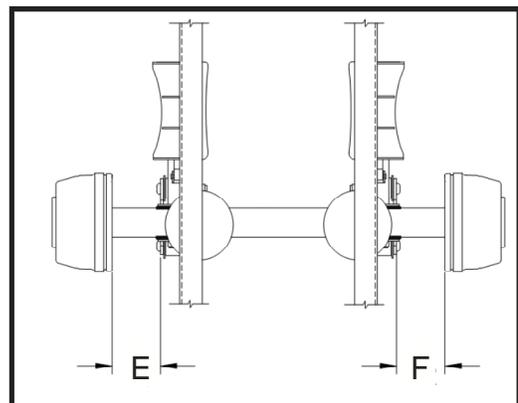

Figure 4
8. Make sure axles protrude evenly on both sides from frame. Figure 4 dimensions E and F must be within 1/4" of each other